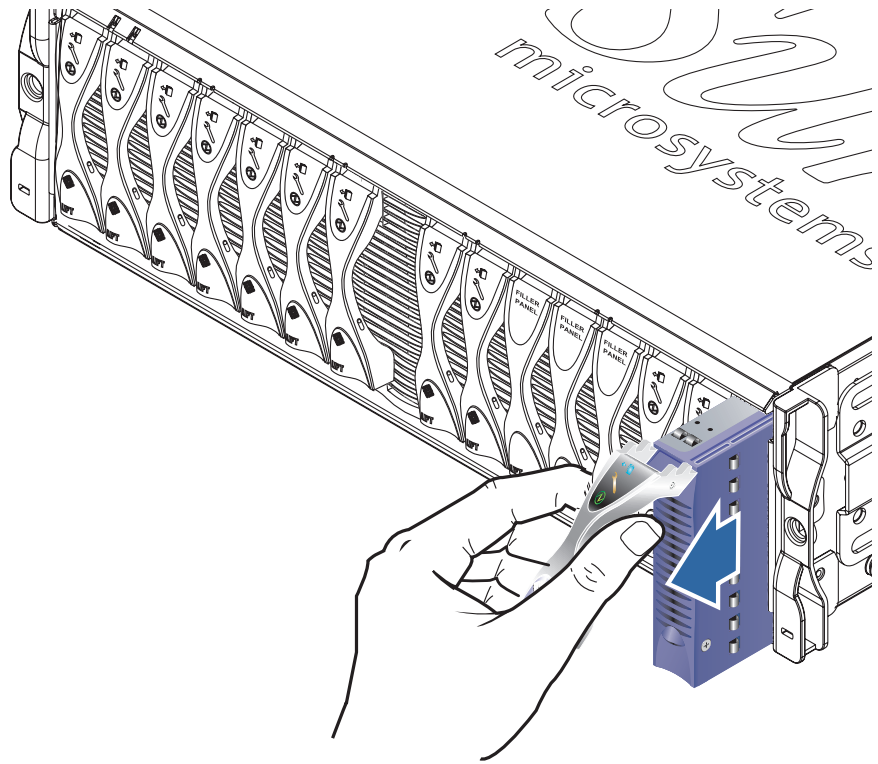

FIGURE 12-3 Ejecting the Blade
3. Pull the lever in a forward and upward motion, causing the blade lever to unlatch and eject the blade partially from the system chassis (FIGURE 12-3).